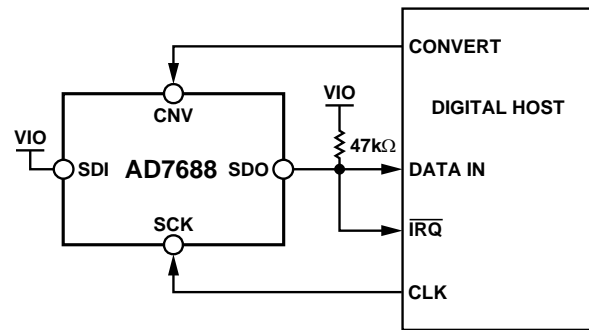
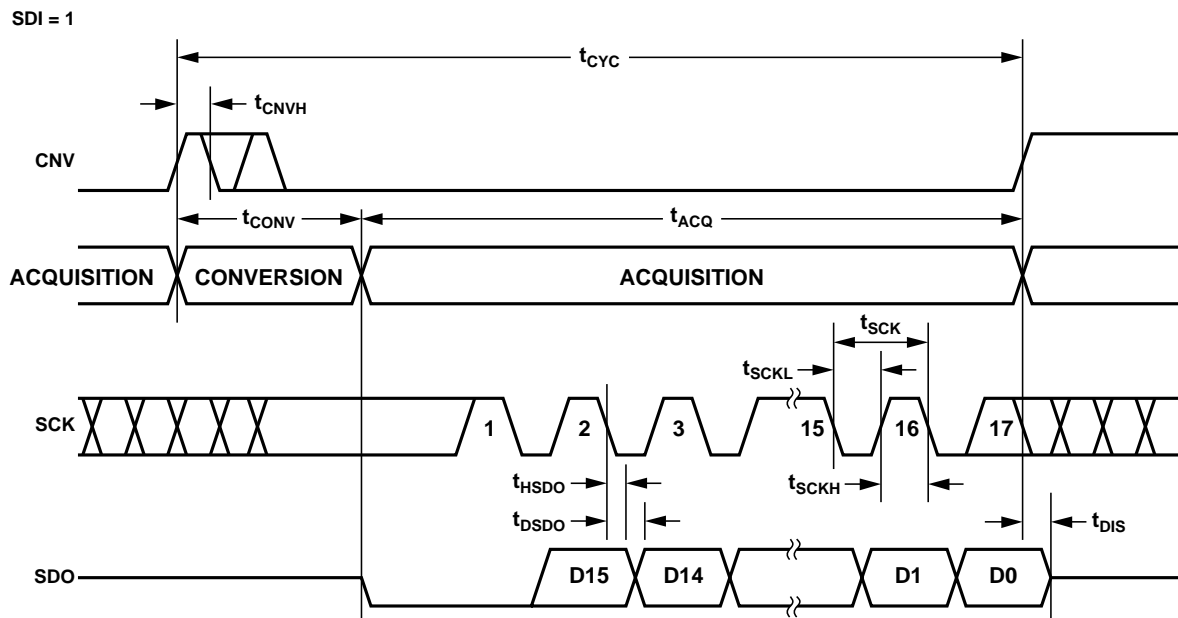
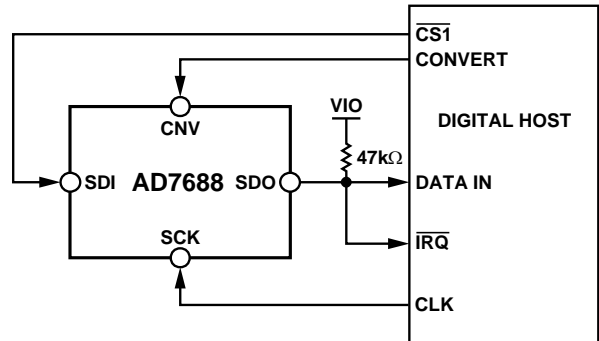
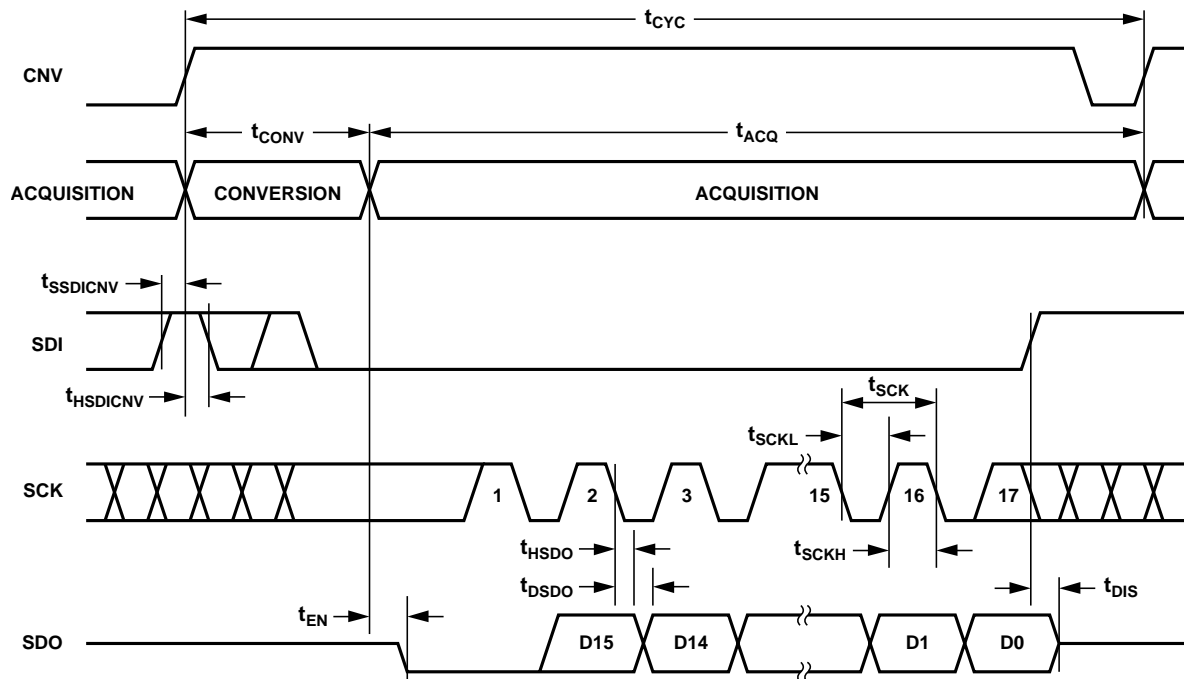

Figure 36. $\overline{\text{CS}}$ Mode 3-Wire with BUSY Indicator Connection Diagram (SDI High)
Figure 37. $\overline{\text{CS}}$ Mode 3-Wire with BUSY Indicator Serial Interface Timing (SDI High)
Figure 40. \overline{CS} Mode 4-Wire with BUSY Indicator Connection Diagram
Figure 41. \overline{CS} Mode 4-Wire with BUSY Indicator Serial Interface Timing
- In the \overline{CS} mode, if CNV or SDI is low when the ADC conversion ends (Figure 37 and Figure 41).
The connection diagram is shown in Figure 36 and the corresponding timing is given in Figure 37.
The connection diagram is shown in Figure 40 and the corresponding timing is given in Figure 41.